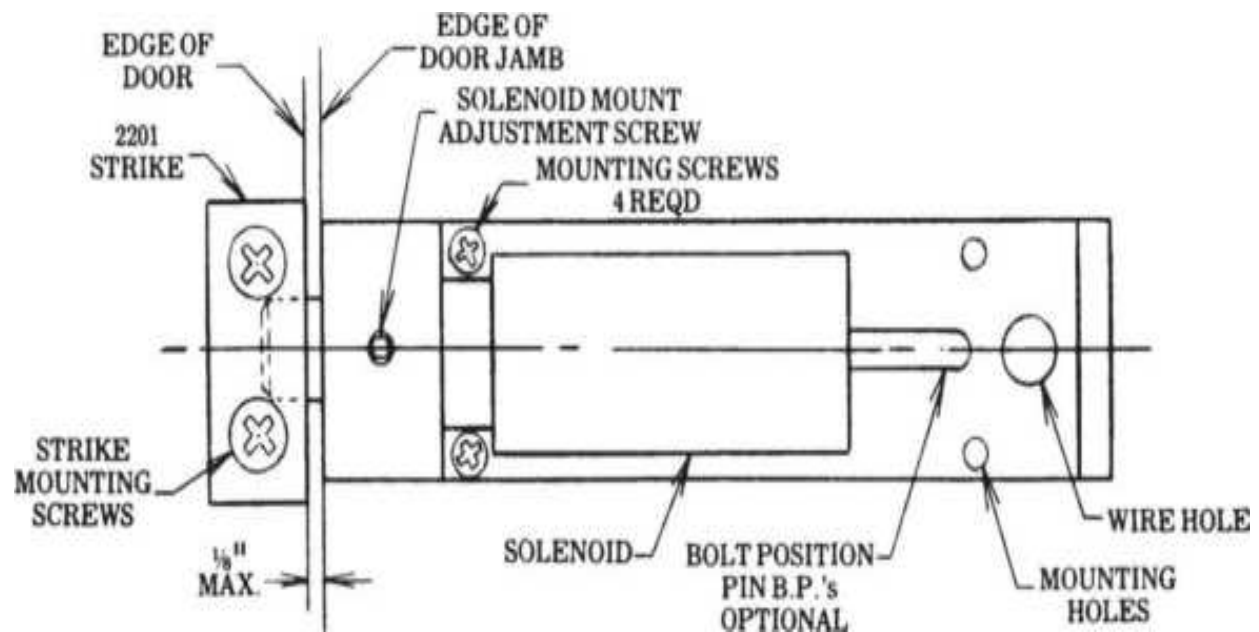

**Figure 19.61** Installation procedure for 2200 series lock. (*Security Engineering, Inc.*)
**Mounting.** Refer to Fig. 19.61 .